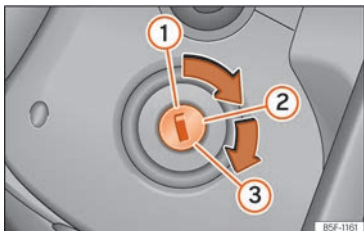

Fig. 129 Ignition key positions.
Key positions »» Fig. 129
- Turn the key to position »» Fig. 129 ②. Preheating occurs in diesel vehicles .
- Keep turning the key to position »» Fig. 129 ③ without stepping on the accelerator.
- Once the engine starts, release the key. When it is released, the key returns to position ②.